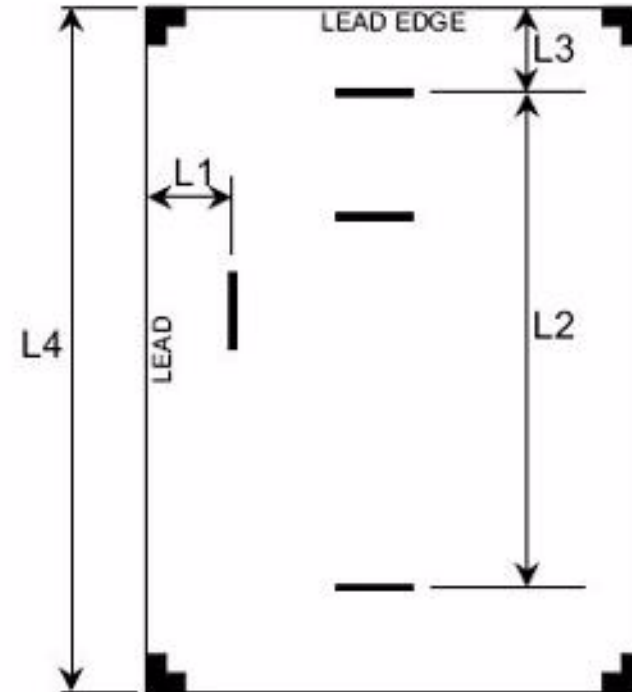

Figure 1 IIT Chart
6. Measure the **L2** length on each of the scanned images (Figure 1).